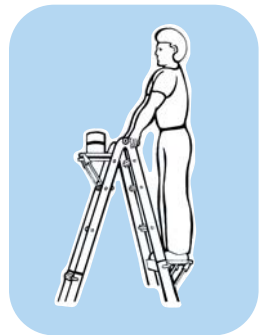

Figure G-8
8. The above instructions apply to the A-frame ladder also. The platform may also be used as a utility shelf (see figure G-8).